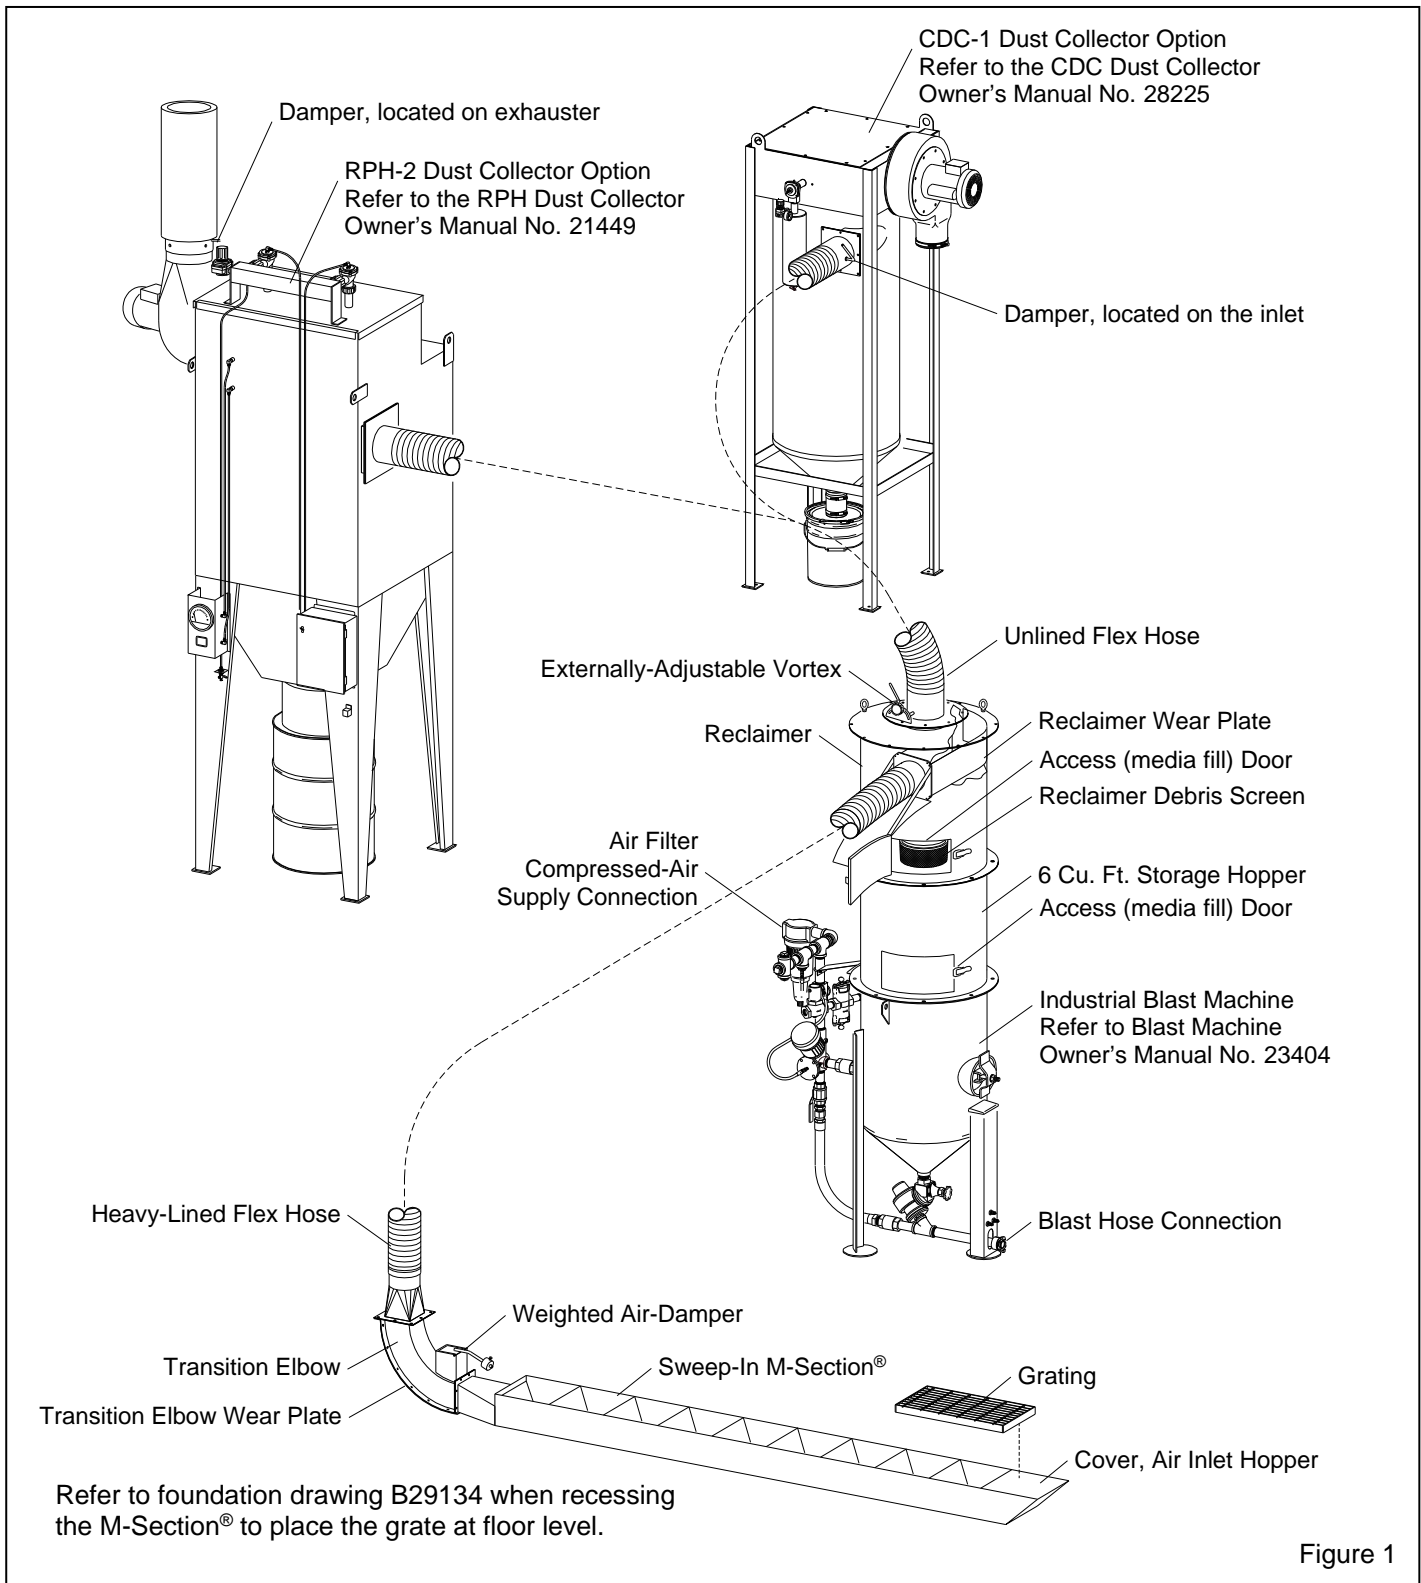

Figure 1
1.3.1 Figure 1 shows the components supplied with standard sweep-in M-Section® systems. If the system was supplied as an engineered project (tailored to customer requirements), refer to the project's general arrangement drawings for the layout of equipment. Standard sweep-in systems consists of:
- Choice of RPH-2 or CDC-1-900 reverse pulse dust collector, the vacuum source for the pneumatic recovery process, pulls recovery air from the M-Section, and through the reclaimer. Both dust collector options are shown in Figure 1.
**4.5.1** Connect the heavy-lined flex hose between the transition outlet and reclaimer as shown in Figure 1. Clamp the hose to secure.
**4.5.2** Connect the unlined flex hose between the reclaimer outlet (vortex tube) and dust collector inlet as shown in Figure 1. Clamp the hose to secure.